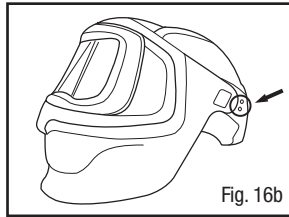

Fig. 16b
- Locate the earmuff attachment points on the outside of the headgear shell (Figs. 16b & c). **NOTE:** There are visible indents on the outside of the shell where the earmuffs attach. Use a pen or a screwdriver to gently push on the screw attachment points to start the hole (i.e., make an indent). This will make it easier to thread the screws into the shell.